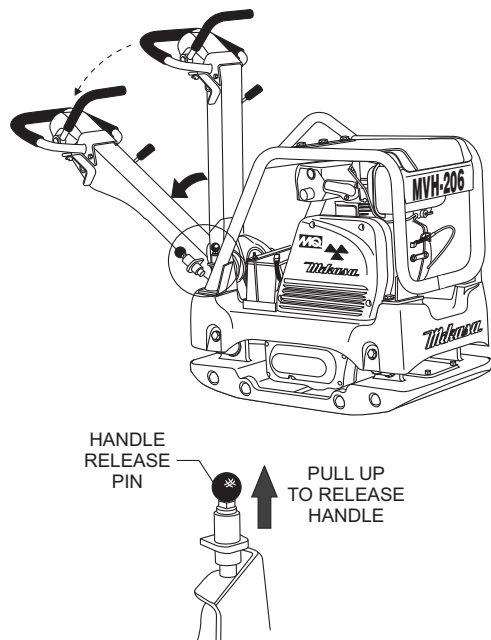

Figure 10. Handle Release Pin
1. Pull the handle release pin, (Figure 10) then push down on the hand grip to release the handle.